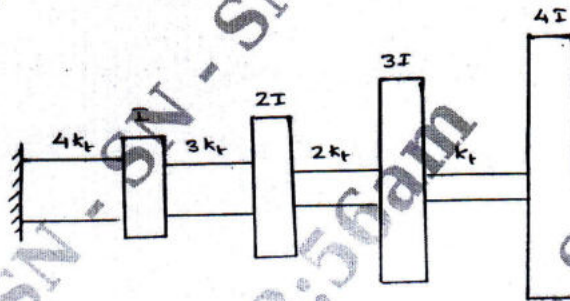

Fig.Q.10
- 10 Find all the natural frequencies of the four degree of freedom system shown in Fig.Q.10 by using Holzer's method.